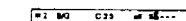

Fig. 22
- 5 Select a letter or number with Δ+ or ∇- and press OK. The next element will be highlighted. Select other characters in the same way. If you want to leave an element blank, select - and press OK. (See Fig. 22.)